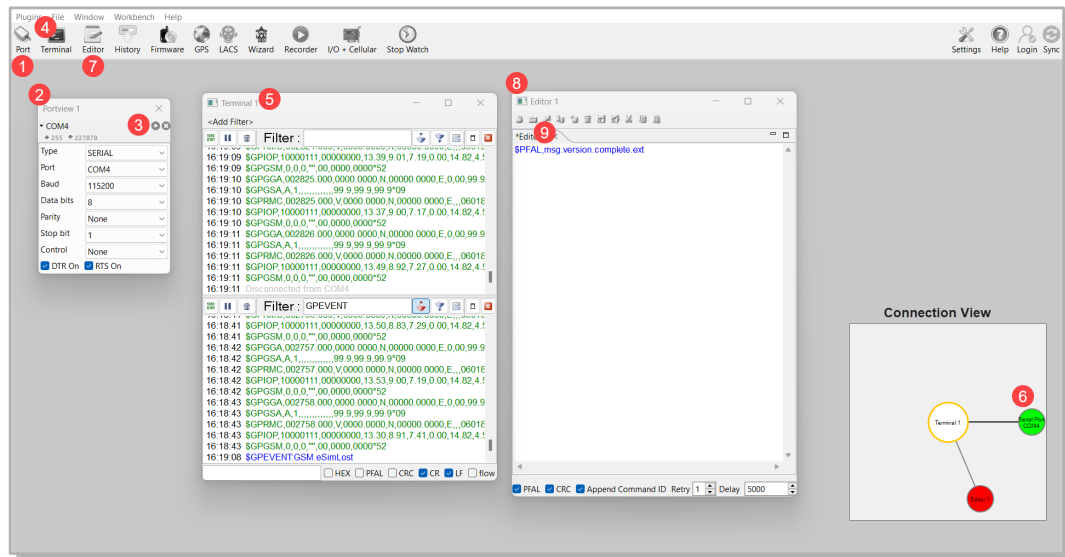

Figure 18: Workbench Interface Components
7. Click **Port (1)**, to open a new Com port, **Portview 1 (2)** displays (see **Figure 18 below**). In **Portview 1**, select the port to which the FOX4-4G device is connected (go to Device Manager > Ports > USB Serial Port (COMxx), where **xx** is the COM port to use). Select the following values for fields in **Portview 1**: